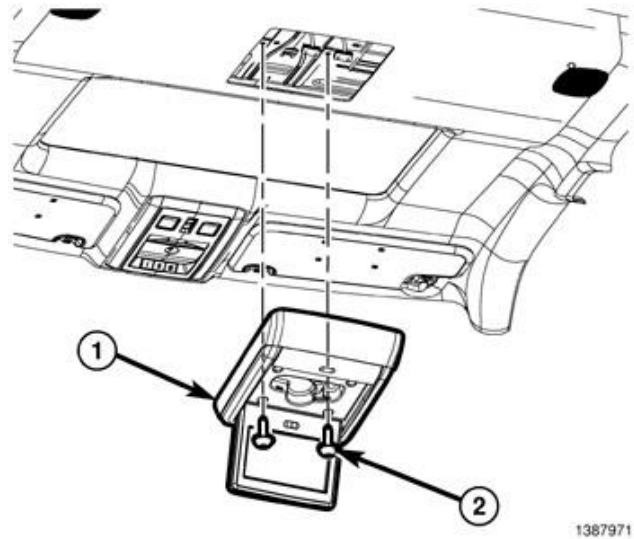
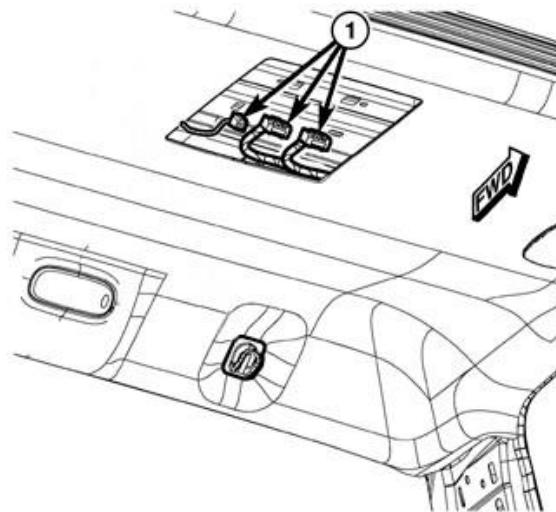

Figure 25 – Rear Seat DVD Monitor
Figure 26 – DVD Monitor Electrical Connectors
- 16. If equipped with DVD monitor, remove the screws (2) and separate the monitor (1) from the roof (Figure 25).
- 17. If equipped with DVD monitor, disconnect the electrical connectors (1) (Figure 26).
44. If equipped with DVD monitor, connect the DVD monitor electrical connectors (1) (Figure 26). Position the DVD monitor to the roof then install and tighten the screws (2) (Figure 25).